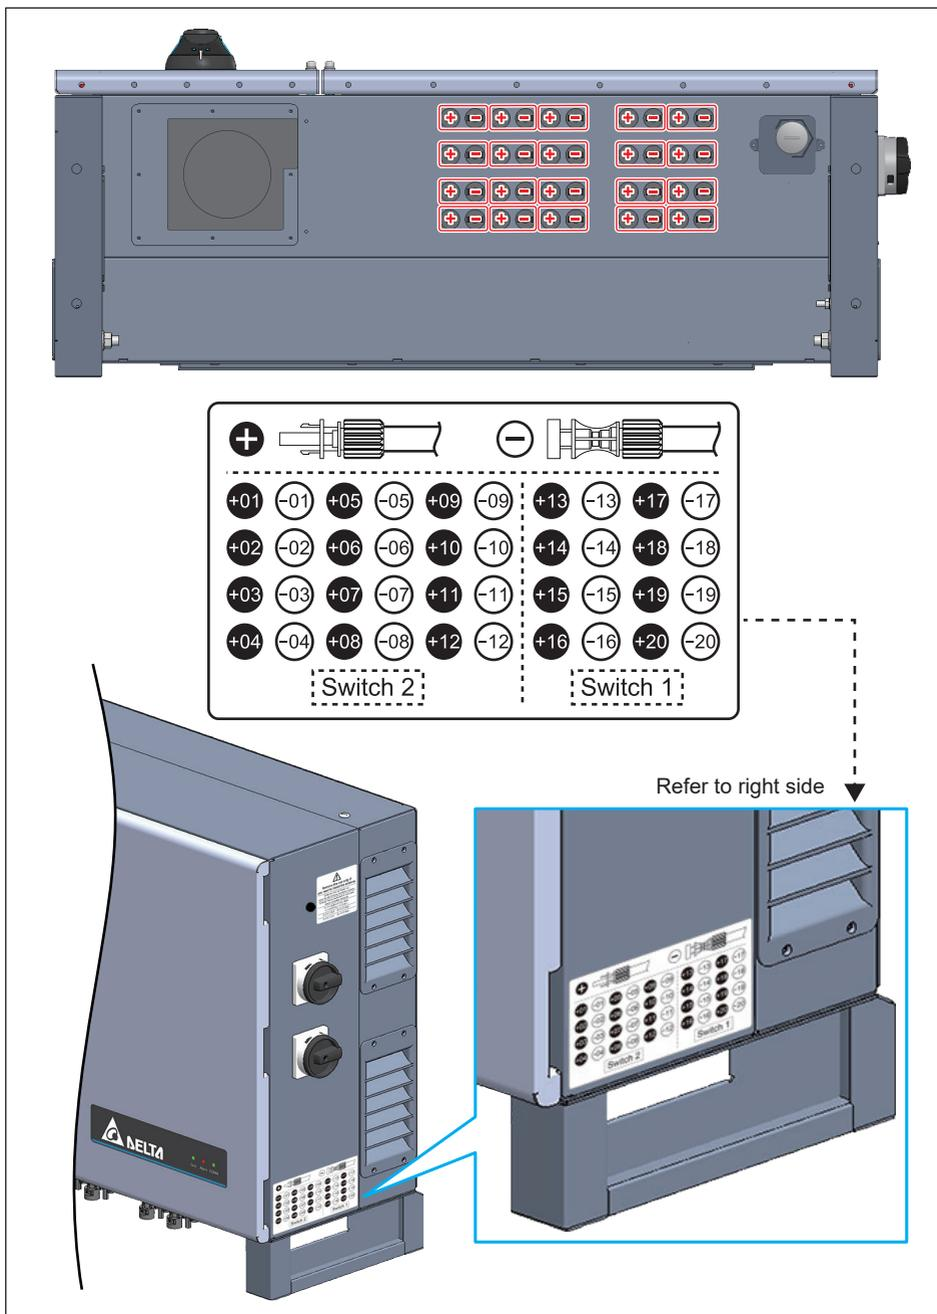

Figure 3-20: M125HV bottom view of inverter chassis showing location of UTX connectors used to connect array wiring (DC)
- DC wiring polarities are divided into positive and negative, and the layout between the connectors and associated internal fuses is shown in **Figure 3-20**.